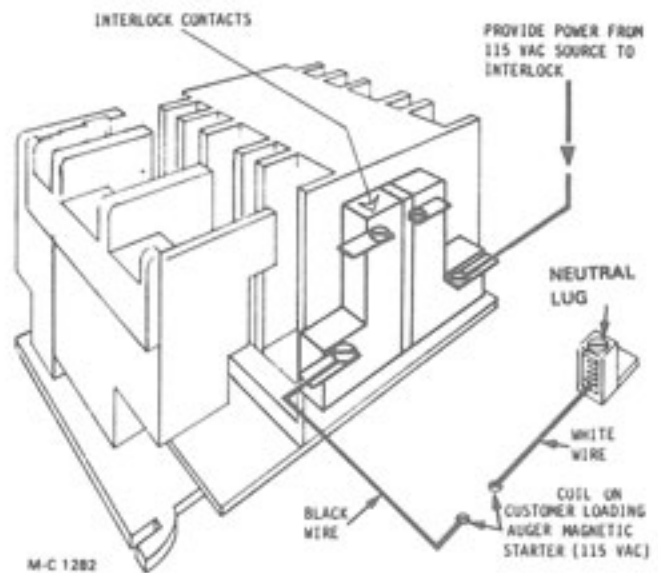

Figure 7 - Level Auger and Unload Auger Magnetic Starter
2. **Loading Auger** - Connect the black wire (line) from the customer supplied magnetic starter 115 volt coil to the dryer level auger magnetic starter auxiliary contact terminal and the white wire (neutral) to neutral lug. See Figure 7.
3. **Take Away Equipment** - Connect the black wire (line) from the customer supplied magnetic starter 115 volt coil to the dryer unload auger magnetic starter auxiliary contact terminal and the white wire (neutral) to neutral lug. See Figure 7.